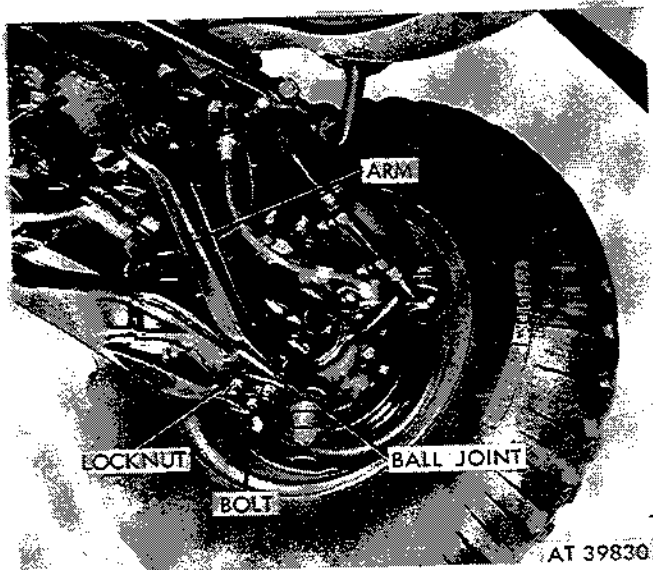

Figure 2-336. Remove lower arm from lower ball joint.
(1) Remove coil spring (para 2-145).
(2) Remove three bolts and locknuts securing lower arm to lower ball joint (fig. 2-336).